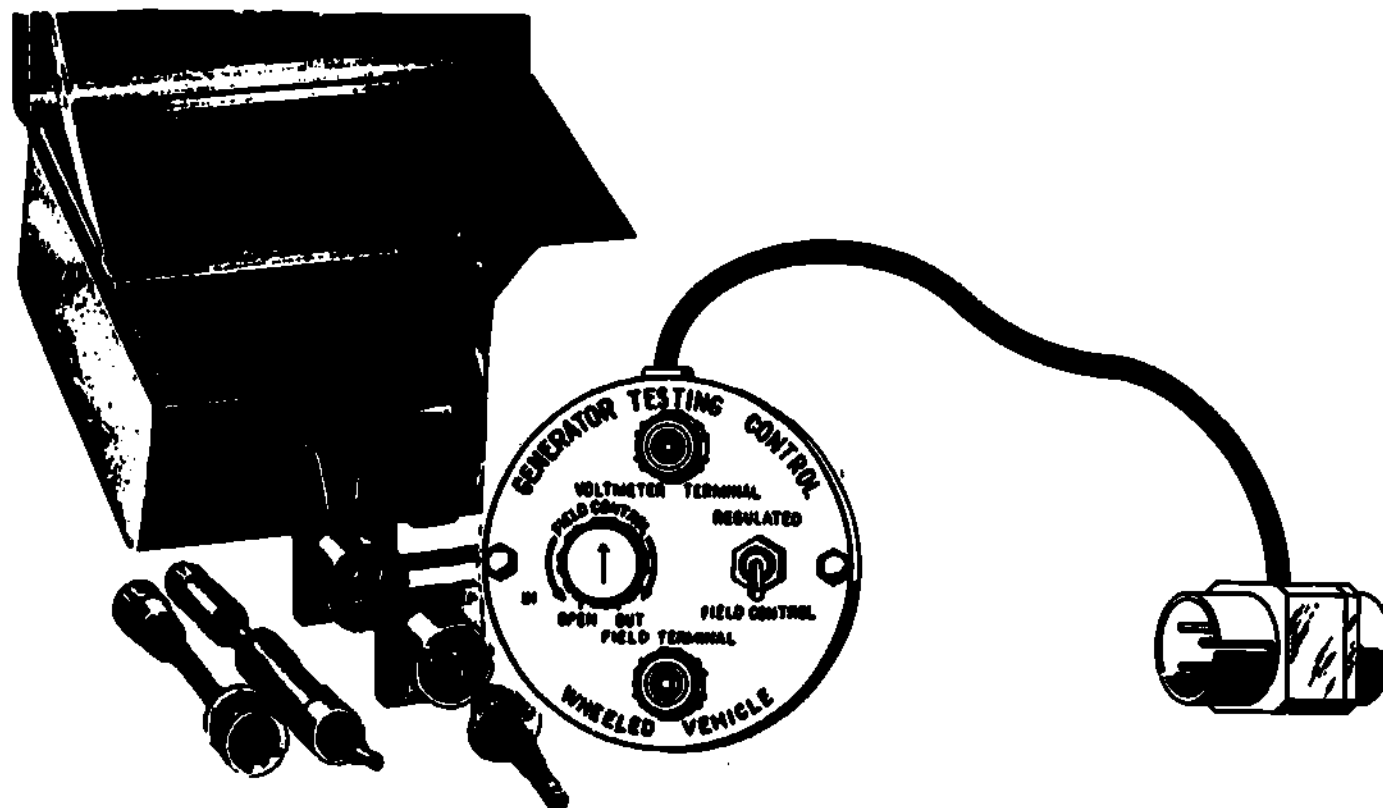

Fig 1-8. Model WPW adapter kit.
- (1) Adapter kit (fig 1-8). The connections necessary for testing and diagnosing fungus-proof and radio-suppressed electrical systems are contained in the adapter kit. The components of the kit are designed to be plugged into the circuit of shielded systems and provide a method of attaching the test equipment. The kit contains a generator field control which is a rheostat for controlling the current through the generator field when making tests.